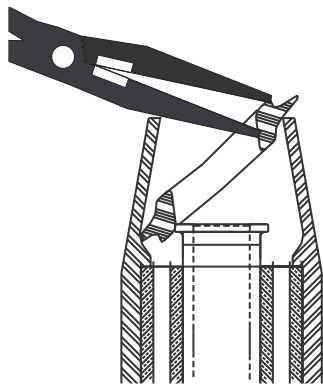

Figure 8-16. Removing The Valve Seal from The End Cap
1. Use a sharp knife or hack saw to cut through the Valve Seal (10). Using a large screw driver or needlenose pliers, pry the Valve Seal from the End Cap. Discard the Seal. See Figure 8-16.